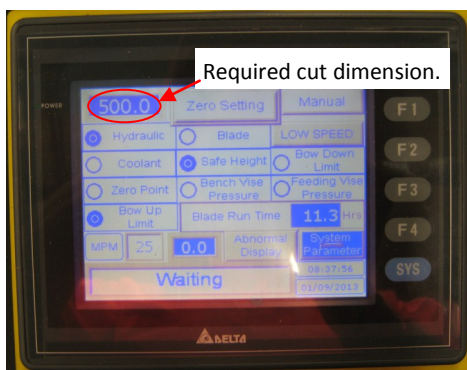

FIG 21.
- b) Move the Feeding Vice back until the required cut dimension is displayed. (Fig 21.) *It will be necessary to jog the forwards/backwards buttons in Slow Speed to obtain an exact*
- d) Move the Feeding Vice all the way forward until the dimension in fig 21. is 0.0.